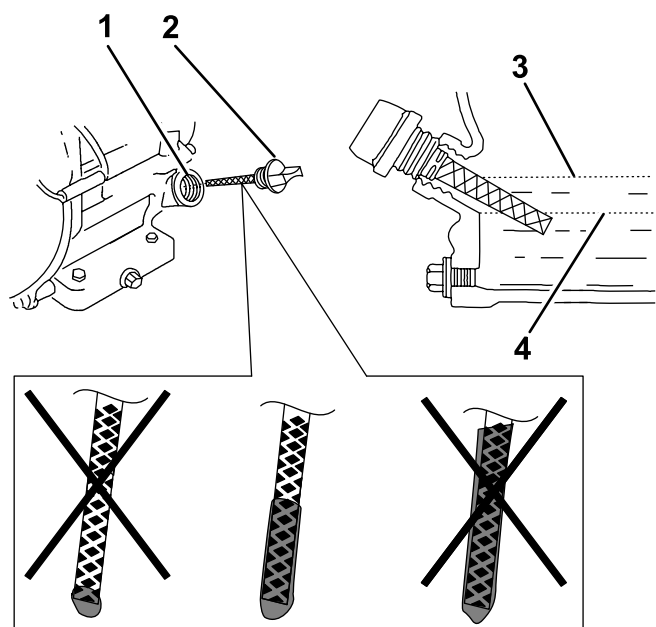

Figure 18
4. Remove the oil-fill cap/dipstick and wipe the end clean (Figure 18).
5. Slide the dipstick fully into the fill port without threading it into the port (Figure 18).
6. Remove the dipstick and look at the end. If the engine oil level is low, slowly pour only enough oil into the fill port to raise the level to the Full mark on the dipstick (Figure 18).
7. Install and secure the dipstick (Figure 18).